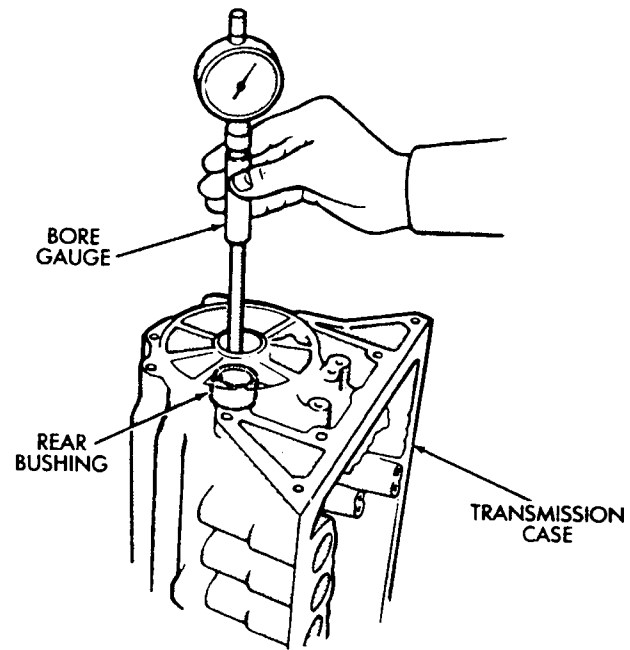

Fig. 49 Checking Rear Bushing Inside Diameter
(58) Measure inside diameter of transmission case rear bushing with bore gauge or inside micrometer (Fig. 49). Maximum allowable diameter is 38.18 mm (1.5031 in). **Replace transmission case if bushing I.D. is greater than specified. Bushing is not serviceable.**